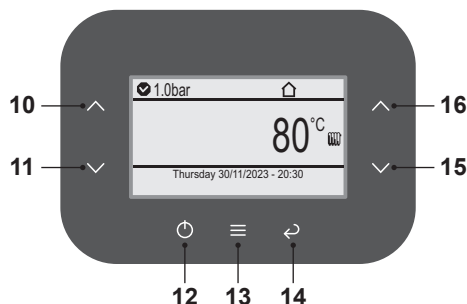
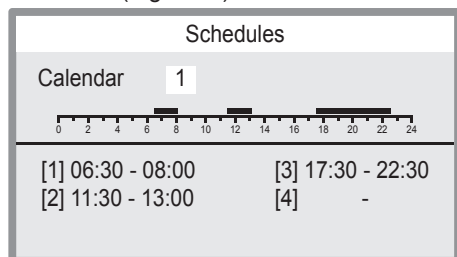

Fig. 2.6
Fig. 2.10
- Press key 13 (Fig. 2.6) to access the main menu (Fig. 2.7).
- Press key 10 or 11 (Fig. 2.6) to select the desired menu (Fig. 2.8).
- Press key 13 (Fig. 2.6) to access the selected menu (Fig. 2.9).
- Press key 10 or 11 (Fig. 2.6) to select the schedule to be modified (1 to 4) (Fig. 2.10).
- Press key 15 or 16 (Fig. 2.6) to access the time brackets (1 to 4).
- Press key 10 or 11 (Fig. 2.6) to change the time of the various points in the time brackets (Fig. 2.10).
- Press key 13 (Fig. 2.6) to confirm the change or key 14 to exit without changing the value (return to previous level).